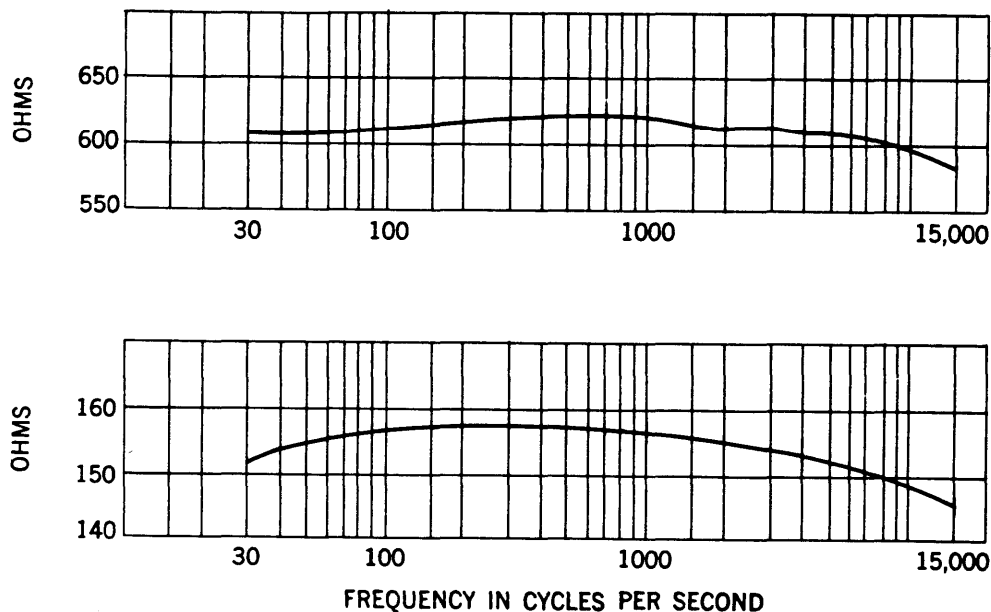

Fig. 5 - Input Impedance vs Frequency
**5.01** Fig. 5 shows the typical input impedance of the amplifier with frequency for a 600- or 150-ohm connection.